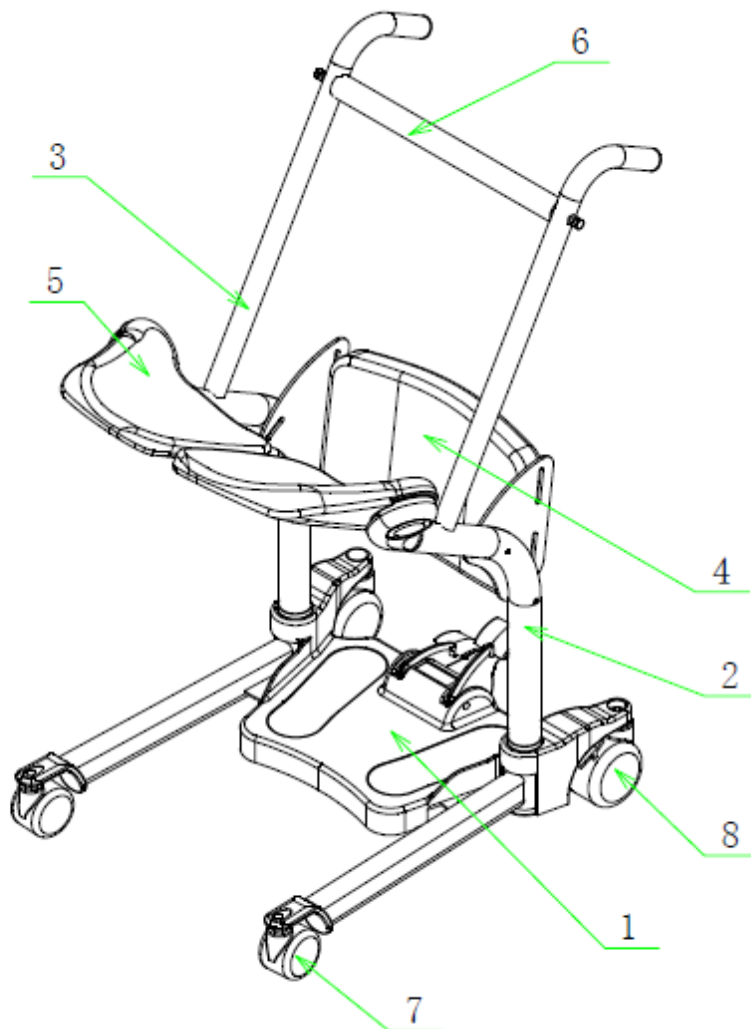

Fig.1
5. Schematic diagram of product and annotations (Fig. 1)